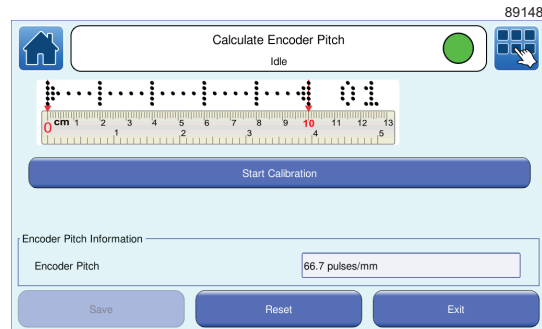

Figure 50. Calculate Encoder Pitch: Start Calibration screen
- Measure the length of the printed calibration message. This value is the distance between the outer edges of the end arrows, shown by the red dots in Figure 50 on page 53. For reference, when the length of the calibration message is 100 mm (plus or minus 1 mm), the encoder pitch is accurate.